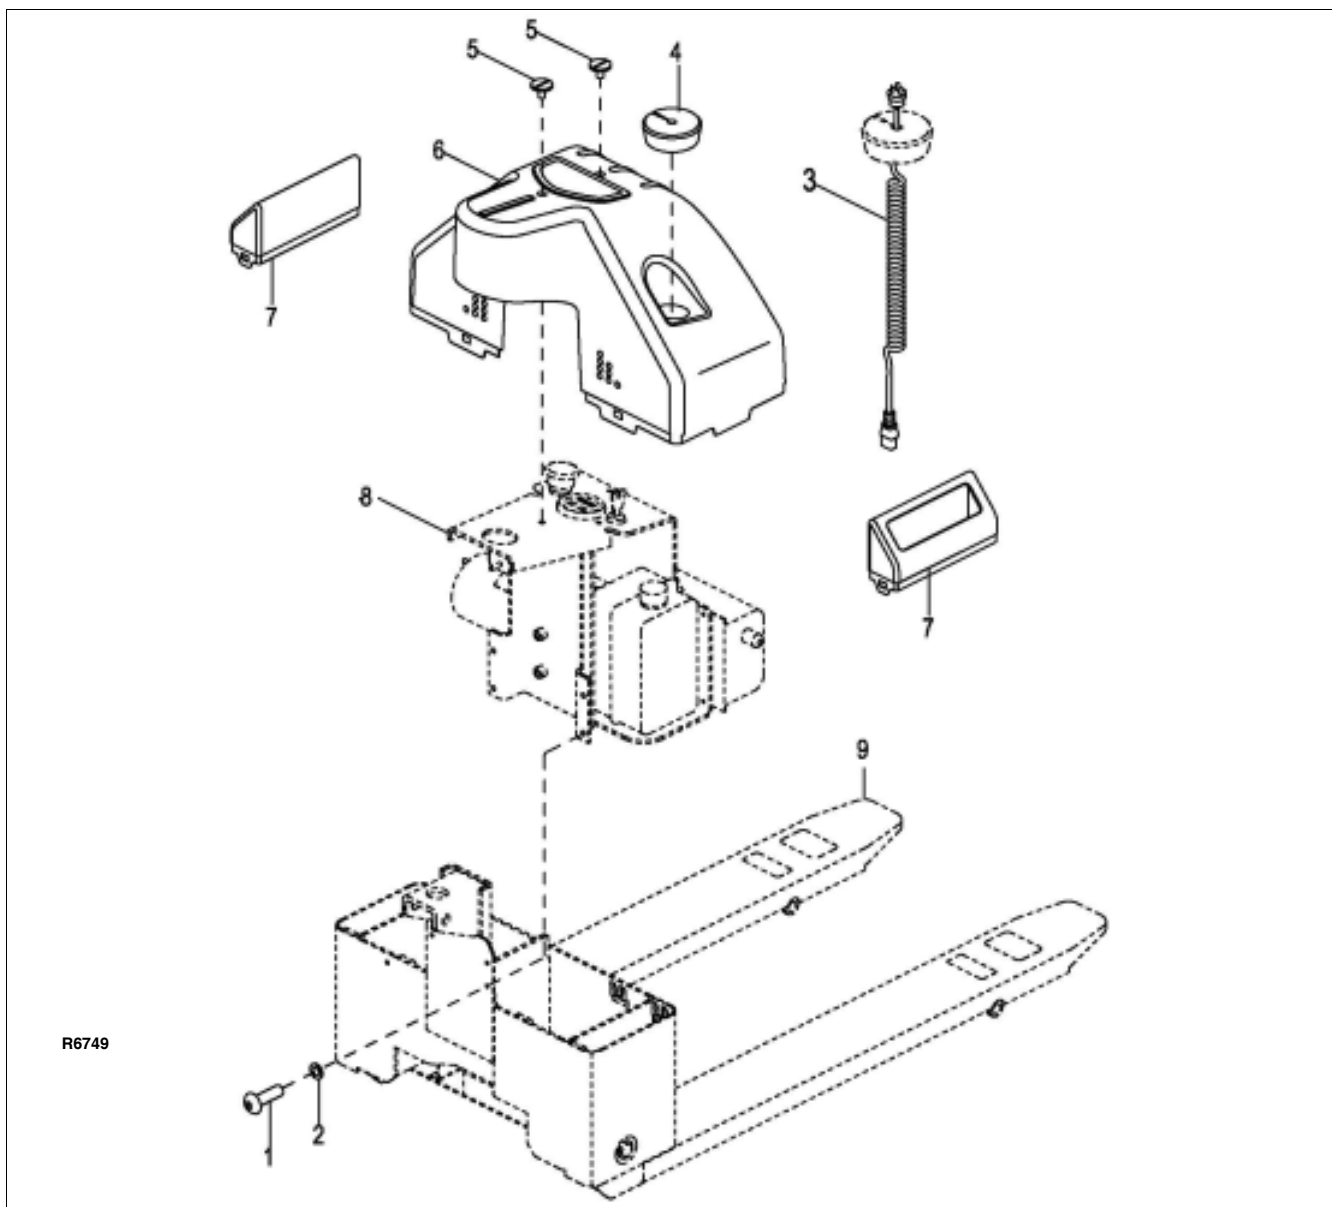

Figure 5-6 Compartment Cover
2. Pull cable (3, Figure 5-6) up and remove cap (4) from the cable. Let cable (3) back down into cover (6).
3. Remove two screws (5) and cover (6).
4. Disconnect cable (3) from the battery charger.
5. Remove two side covers (7).
1. Install two side covers (7, Figure 5-6).
2. Reconnect cable (3) to the battery charger.
3. Feed cable (3) through cover (6) and position cover (6) on frame (9). Secure with two screws (5).
4. Install cap (4) on cable (3) and position the cap on cover (6).